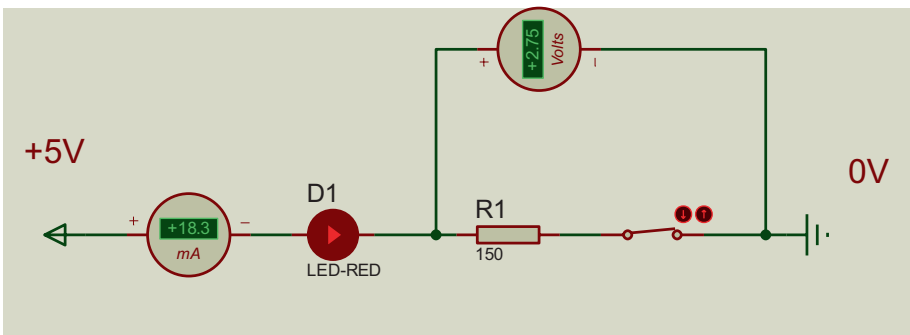

Figure 2-2. *The basic circuit to turn on an LED in a common anode*
In a common anode seven-segment display, the anodes of all seven LEDs are connected together, hence they are common. They are usually connected to a +5V supply. Then, to turn each LED on, the cathode of each LED must be connected independently to ground or 0V. However, to limit the current that flows through the LEDs, and so prevent it from burning out, a resistor is inserted between the cathode and ground. This arrangement is shown in Figure 2-2.
In Figure 2-2, the LED is shown illuminated. The full 5V supply is divided between the LED and the resistor. Another reason why you need a resistor is to drop the extra 2.8V. The voltmeter is shown measuring 2.75V across the resistor R1. The remaining 2.25V must be dropped across the LED. The value of the resistor is chosen to limit the current flowing through the LED to its maximum. From the data sheet, this is around 25mA. However, a typical value is 20mA, which is good enough. Using this typical value and an expression for resistance (R), derived from Ohm's law, you have
If you use the standard E12 series of resistors, there is no 140Ω resistor, so you must use a 150Ω, which is the next higher value. Note that you should always go higher so as to limit the current more, not less. Also note that I use the value 2.8V as the volt drop across the resistor assuming that the LED drops 2.2V. The meters in the simulation shown in Figure 2-2 do agree closely to the above calculations.